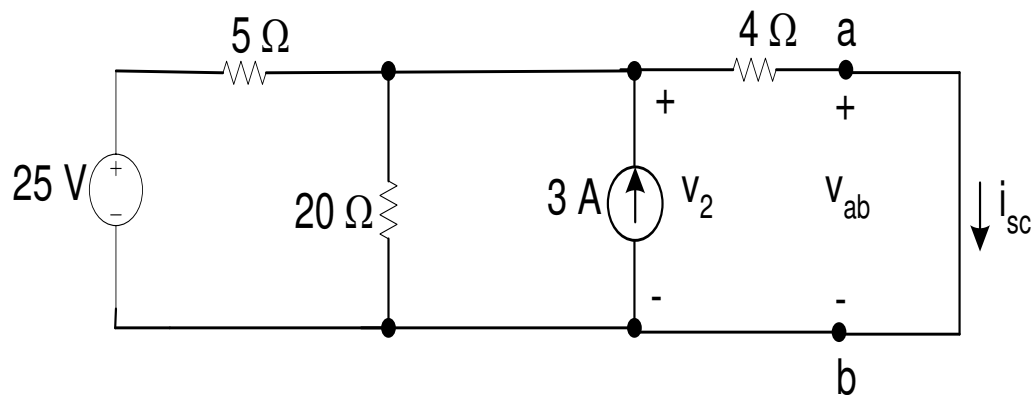

Figure 7
- The next step is to short circuit the terminals and find the short circuit current for the circuit shown in Figure 7. Note that the current is in the same direction as the falling voltage at the terminal.